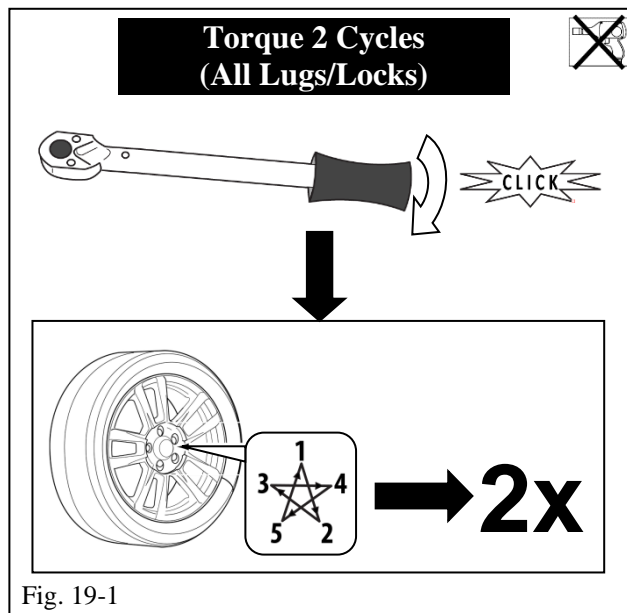

Fig. 19-1
- Use a torque wrench to tighten the lug nuts in sequence 1 through 5 to 103N·m (76 ft-lbf) (Fig. 19-1).
- Re-torque all of the lug nuts in same the 1-5 sequence (Fig. 19-1).